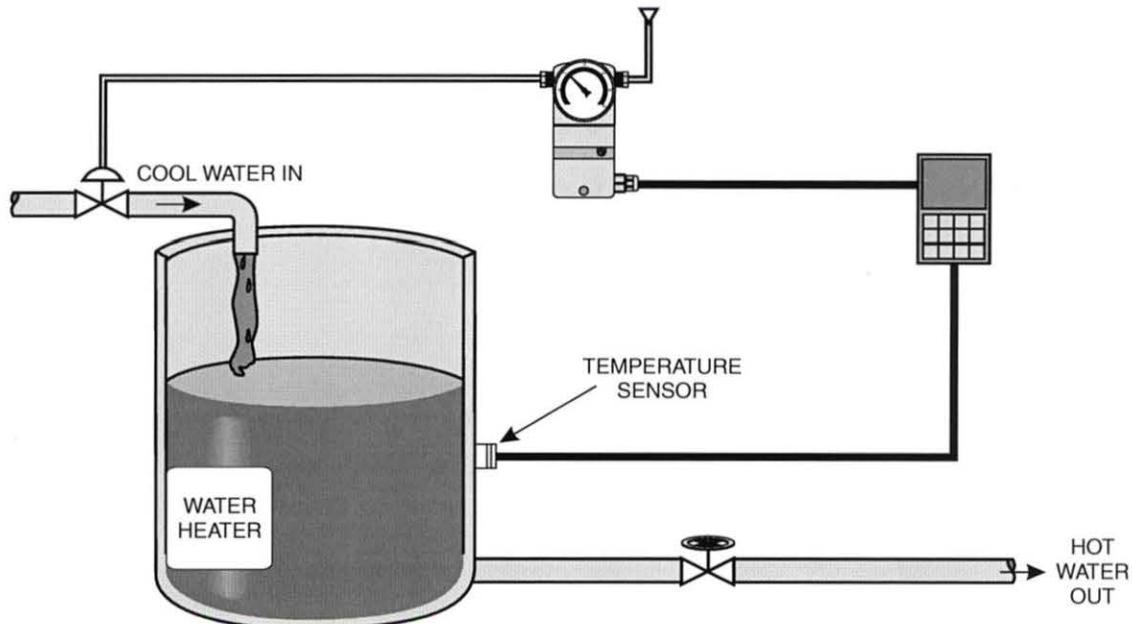

Figure 6. Temperature Sensor with a Range of 0°F to 100°F
- 1. Determine the resolution of the temperature sensor in figure 6 given the following information: